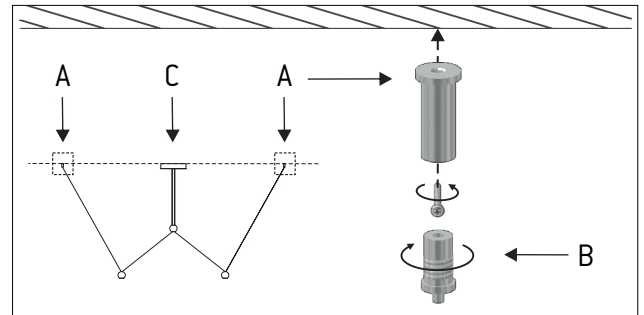

Figure 3
3 - Unscrew the tensor (A) from the gripper support (B) and attach it to the ceiling. Figure 3.